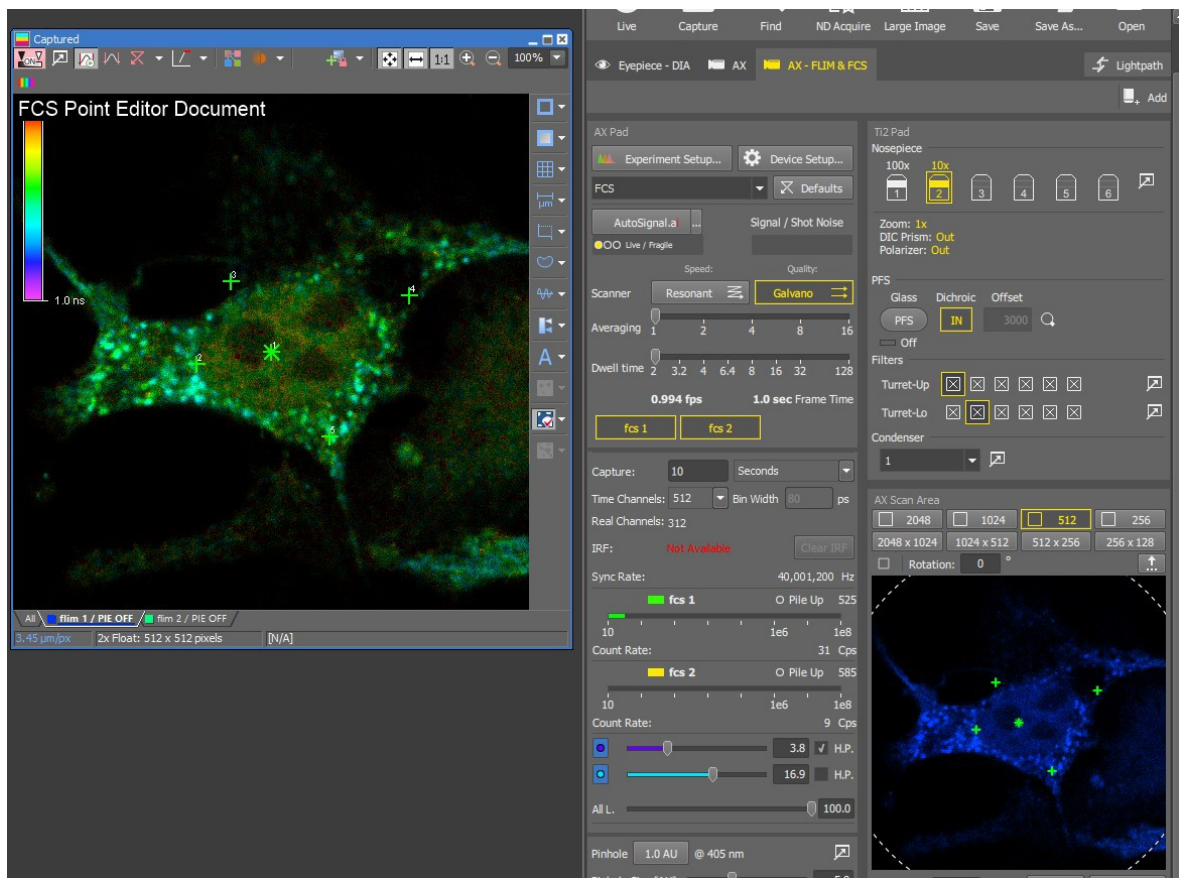

Fig. 3.27: Selection of FCS measurement location.
5. In the captured image, go with the mouse to the spot where you want perform the FCS measurement. By default, FCS measurement point is created in the center of scan area. User can move existing points in scan area by dragging and add new points with double clicks. If user wants to reset scan area to the default (= only one point in the center), user has to rightclick and select “Reset Points” from menu. (Fig. 3.27).